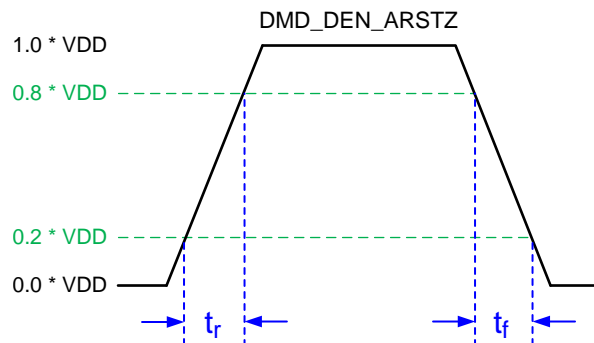

Figure 2. LPSDR Input Rise and Fall Slew Rate
| t _r | Rise slew rate ⁽¹⁾ | (20% to 80%) × VDD, see Figure 2 | 0.25 | | | V/ns |
| t _f | Fall slew rate ⁽¹⁾ | (80% to 20%) × VDD, see Figure 2 | 0.25 | | | V/ns |
(1) Specification is for DMD_DEN_ARSTZ pin. Refer to LPSDR input rise and fall slew rate in Figure 2.
(2) Specification is for SubLVDS receiver time only and does not take into account commanding and latency after commanding.